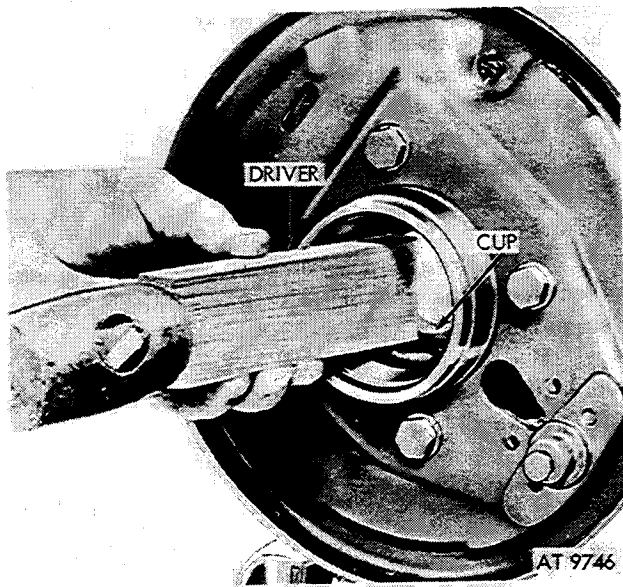
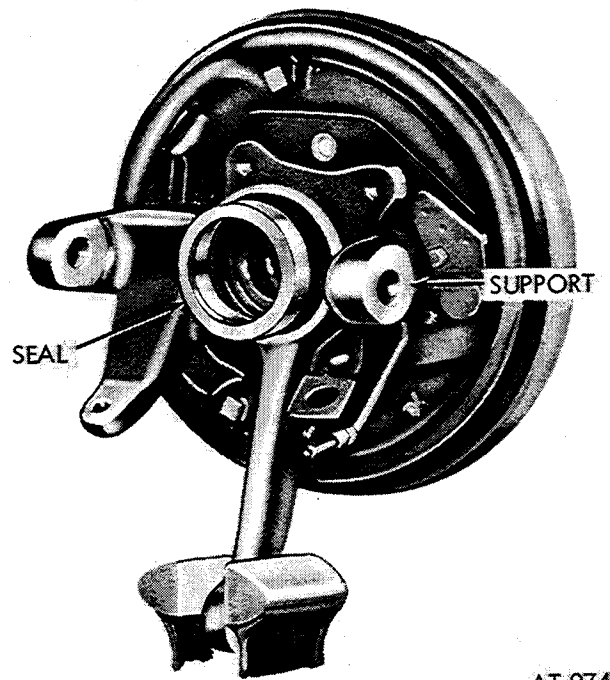
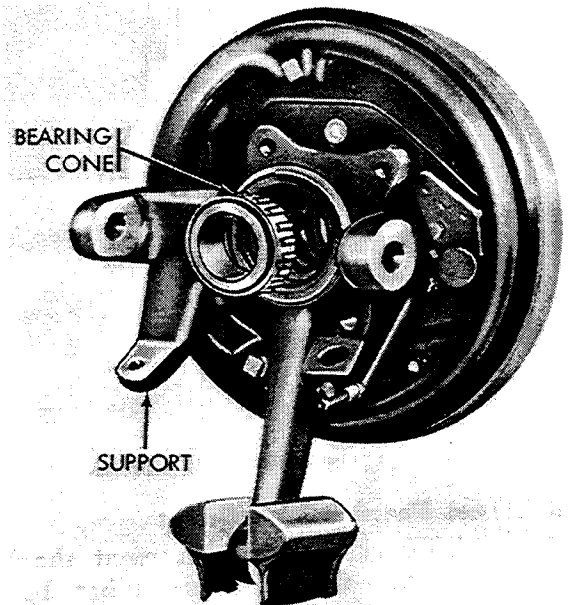

Figure 2-323. Loosen bearing cup and seal.
Figure 2-324. Remove seal from support.
Figure 2-325. Remove bearing and cone from support.
(1) Remove wheel spindle (para 2-138), drive flange (para 2-139) and support (para 2-140).
(2) Loosen inner bearing cup and seal using a block of wood or a brass drift (fig. 2-323).
(3) Remove seal (fig. 2-324), bearing and cone (fig. 2-325) and bearing cup (fig. 2-323) from support.
*b. Installation.* Install wheel inner seal, bearing and cup as given in operations (1) through (6) below.
(3) Pack bearing cone with grease (GAA) and position in bearing cup (fig. 2-325).
(4) Coat outside seating surface of seal with compound sealer MIL-S-45180 (FSN 8030-656-1426) and coat lips of seal with grease (GAA). Position seal in support (fig. 2-325).